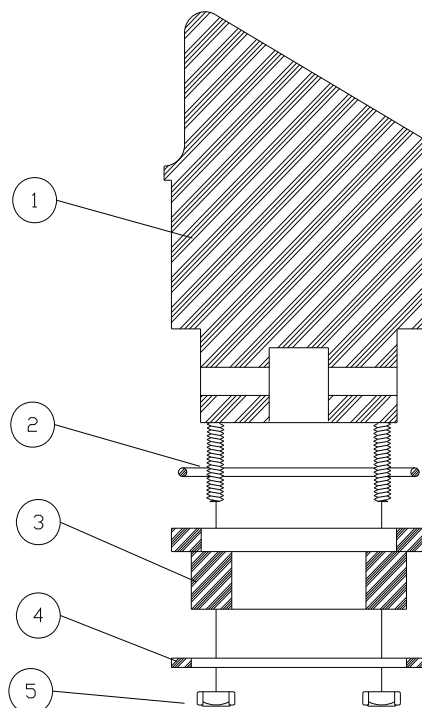
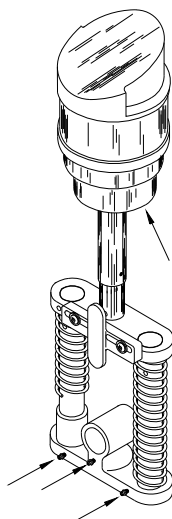

FIGURE 4
FIGURE 2
TO DISMANTLE PISTON IN FIGURE 4, REMOVE THE SIX HEX NUTS (5), SLIDE SLIP RING (4) DOWN AND OFF, THEN WITH SLIGHT PRESSURE, PUSH PISTON RING (3) OFF PISTON AND REMOVE RUBBER "O" RING (2). WHEN REASSEMBLING THE PISTON, A VERY IMPORTANT STEP IS TO MAKE SURE THE SIX NUTS (6) ARE NOT OVERLY TIGHTENED, MERELY SNUG. AS THE RING WEARS OVER A PERIOD OF TIME, CONTINUE TO SNUG UP THE SIX NUTS. THIS PROCEDURE WILL NOT ONLY PROVIDE LONG LIFE TO THE PISTON RING BUT WILL MAINTAIN FULL VACUUM.
THE PISTON AND SPRING LOAD ASSEMBLY HAVE A TOTAL OF (4) GREASE FITTINGS, (FIG. 2). THREE (3) OF THESE FITTINGS ARE FOUND ON THE LOWER CASTING OF THE SPRING LOAD. APPLY A SMALL AMOUNT OF GREASE TO THESE FITTINGS ONCE A WEEK. THE SAME PROCEDURE SHOULD BE FOLLOWED FOR THE GREASE FITTING UNDER THE PISTON, (FIG. 4). THIS FITTING IS LOCATED ON THE TOP OF THE OUTSIDE CONNECTING ROD, (PART NO. 322PY).